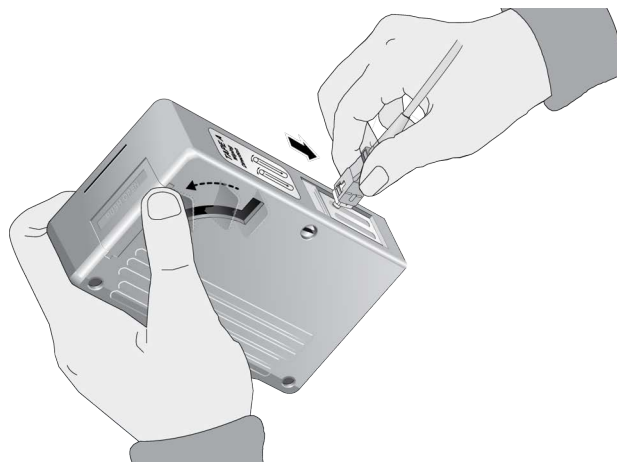

Figure 50. Rubbing the Ferrule Tip on the Cleaning Surface
2. Place the ferrule tip on the exposed cleaning surface and rub the ferrule in a downward direction, as shown in Figure 50.
1. Insert the swab into the adapter as shown in Figure 50 and rub the ferrule tip with the swab.